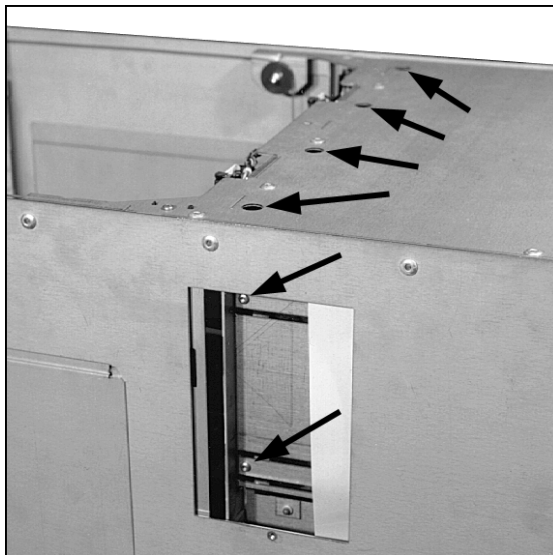

Figure 5-13. Cartridge Guide Frame Mounting Screws
3. Remove the cartridge guide frame. (See Figure 5-13.)
- a. (Inside the small access holes on each side) - Remove the two screws on each side of the chassis that hold the side of the cartridge guide frame. See Figure 5-13 (side screws are indicated on one side only).